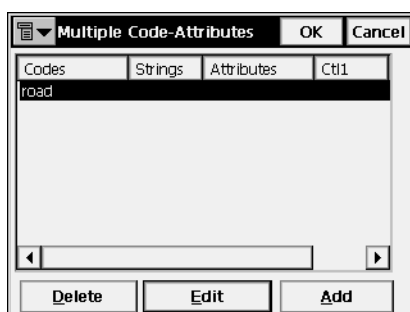

Figure 5-28. Multiple Code - Attributes
- **Multiple Codes**: opens the *Multiple Code-Attributes* screen (Figure 5-28 on page 5-23).